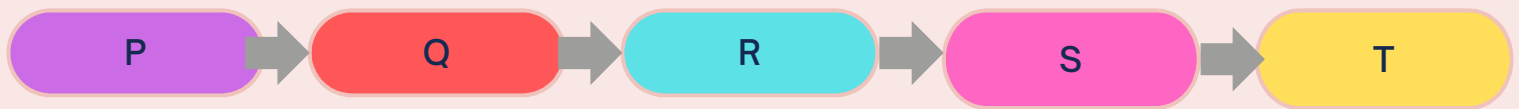

Figure 1
3. Based on Figure 1, name the block of 'P' and 'R'.